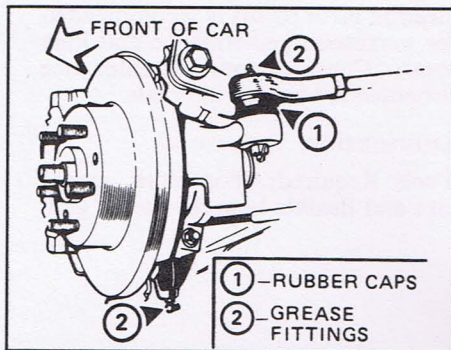

Figure 3 - Rear suspension
1. Wipe the 4 grease fittings (2 on each side) clean with a cloth. See Figure 3.